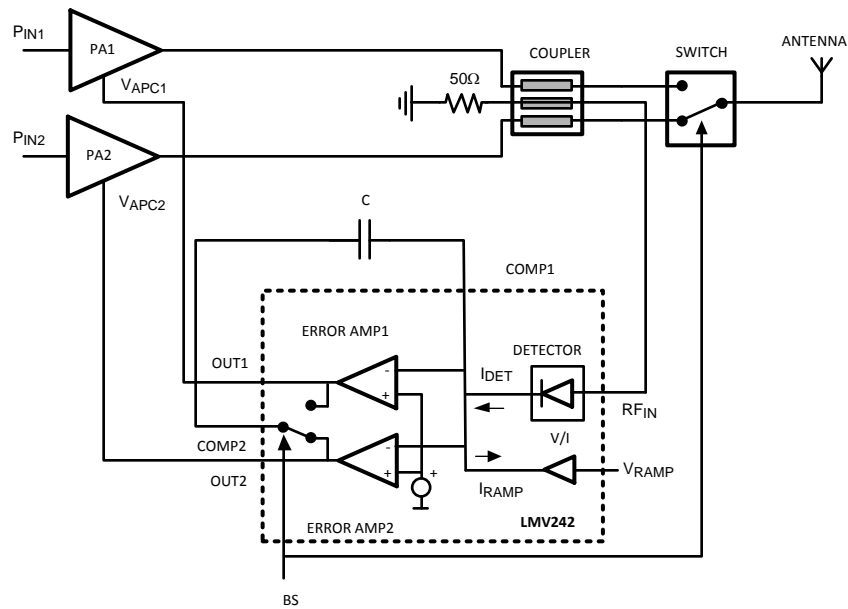

Figure 25. PA Control Loop
A typical setup of PA control loop is depicted in Figure 25. Beginning at the output of the Power Amplifier (PA), this signal is fed, usually via a directional coupler, to a detector. The error between the detector output current I_{DET} and the ramp current I_{RAMP} , representing the selected power setting, drives the inverting input of an op amp, configured as an integrator. A reference voltage drives the non-inverting input of the op amp. Finally the output of the integrator op amp drives the gain control input of the power amplifier, which sets the output power. The loop is stabilized when I_{DET} is equal to I_{RAMP} . Lets examine how this circuit works in detail.